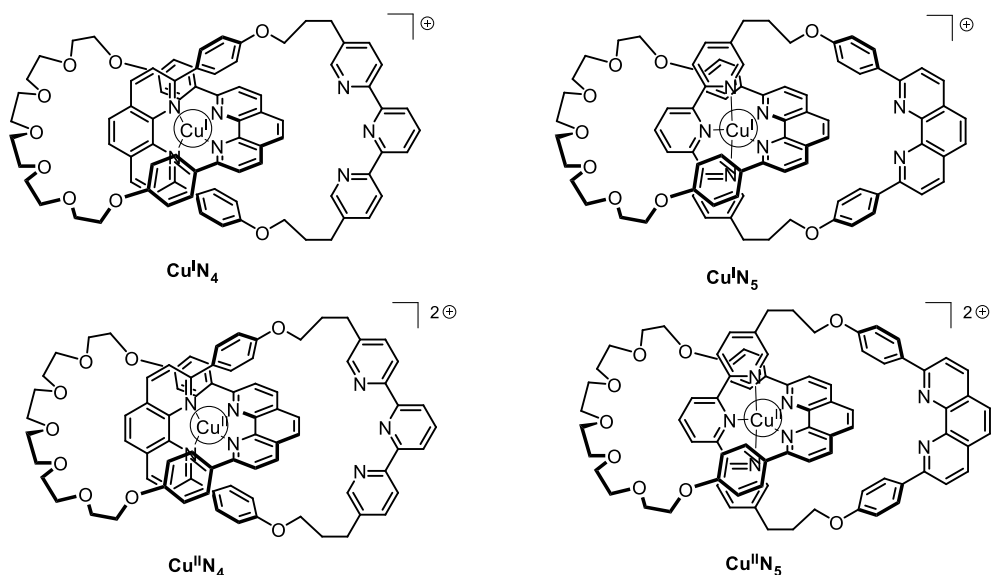

Fig. 2 – [2]catenane **L** states
11. **Fill** in the solid boxes with the designation complexes in Fig. 2.